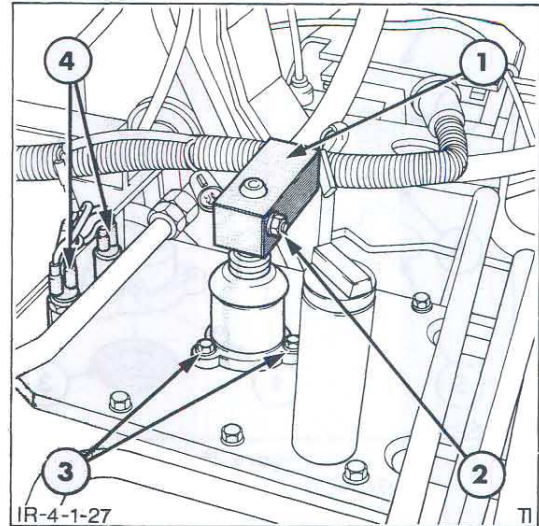

Figure 27
5. Remove the three gearshift lever spigot support retaining bolts from the transmission top cover, Figure 27.